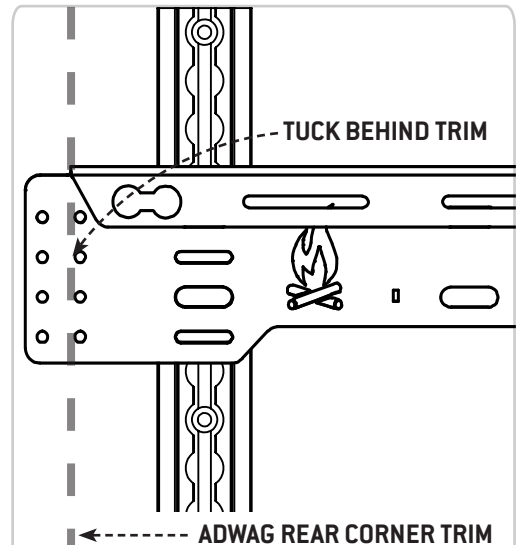

FIG 3
2.3a Tuck the rear end of the rail behind the Adwag Rear Corner Trim if applicable and secure rail using L-Track Stud Nuts and a 5/8" Wrench (**FIG 3**).